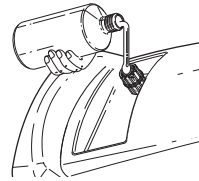

Figure 12
4. With the motor running pour approximately 1/4 cup of nontoxic R.V. antifreeze into the water inlet (See Figure 12). Let unit run for a few seconds.